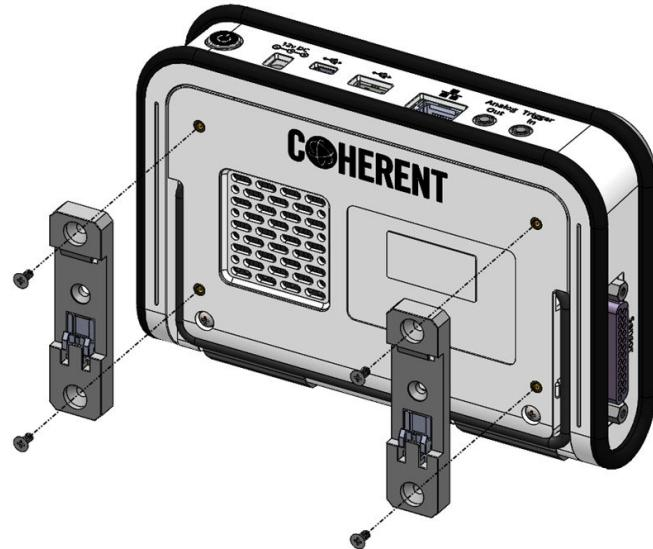

Figure 3-9. Mount Brackets Installed
2. Attach the two brackets to the meter with two screws each. Figure 3-9 shows the location of the holes on the back of the meter where attach the screws are attached.